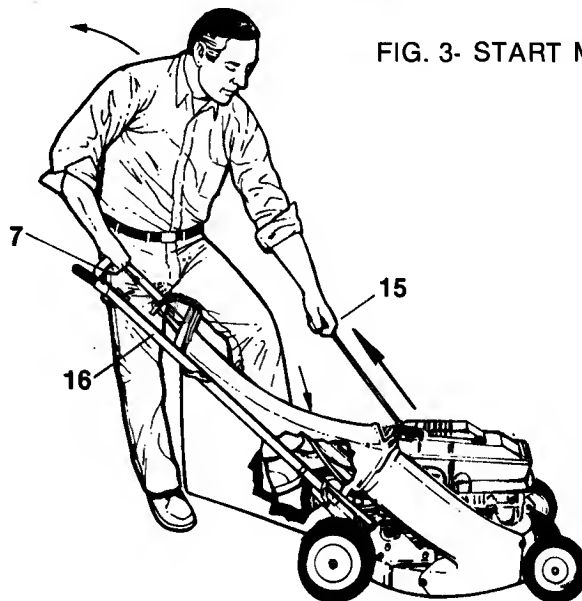

FIG. 3- START MOWER
2. Hold **BLADE CONTROL (7)** firmly against **UPPER HANDLE (16)** - otherwise the engine will not start! Refer to FIG. 3.
4. Bend at waist to reach **ROPE START HANDLE (15)** and straighten up as you pull handle - using back muscles more than arm muscles.